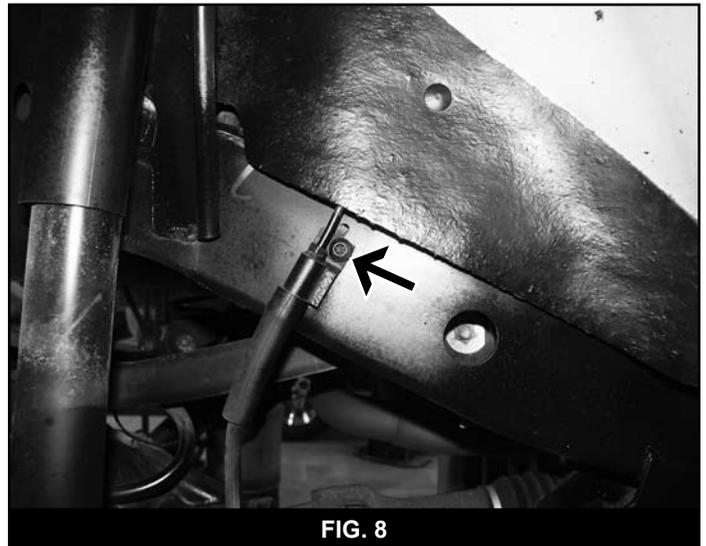

FIG. 8
19. Remove fasteners holding brake line anchors to frame on driver's and passenger's side (Fig 8). Retain bolts.